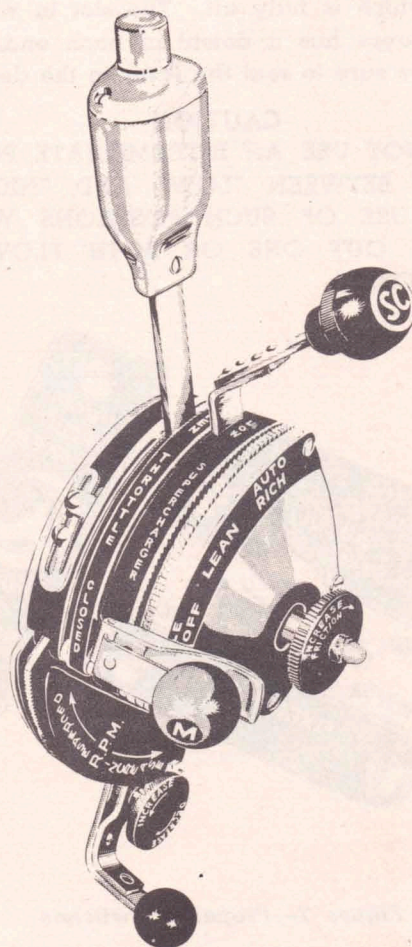
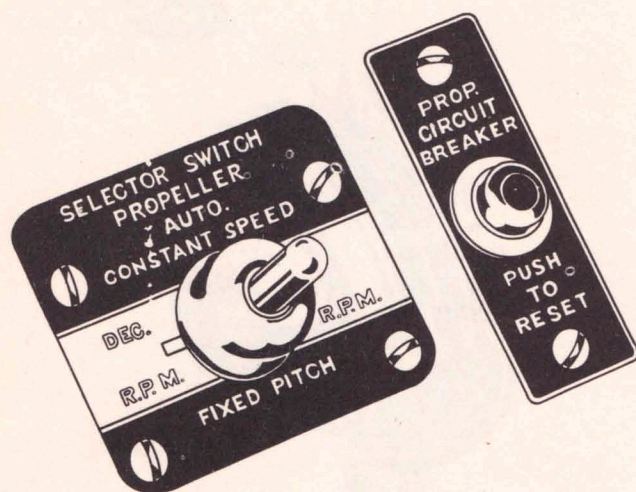

Figure 6—Engine Controls Quadrant
Figure 7—Propeller Switches
the engine controls quadrant. (See figure 6.) Its operation is conventional; to open the throttle push it forward. The quadrant is equipped with a notched spring type device so designed that a slight additional resistance to throttle movement is experienced when the throttle is opened past take-off manifold pressure (49 inches Hg. at sea level).
- (2) **FRICTION KNOB.**—The engine controls quadrant is equipped with a friction knob for adjusting the amount of force required to operate the controls on the quadrant (throttle, mixture control, supercharger control, and propeller governor control). To increase friction, turn the knob clockwise; to decrease, turn counterclockwise. (See figure 6.)
- (3) **MIXTURE CONTROL.**—The mixture control (marked "M") is the inboard lever on the engine controls quadrant, and has three positions: "IDLE CUT-OFF" auto lean (marked "LEAN"), and "AUTO RICH". An attached lock must be lifted in order to
(a) **GENERAL.**—The propeller controls consist of a toggle switch and a circuit breaker button (see figure 7) located on the left console, and a propeller governor control on the engine controls quadrant. (See figure 6.)